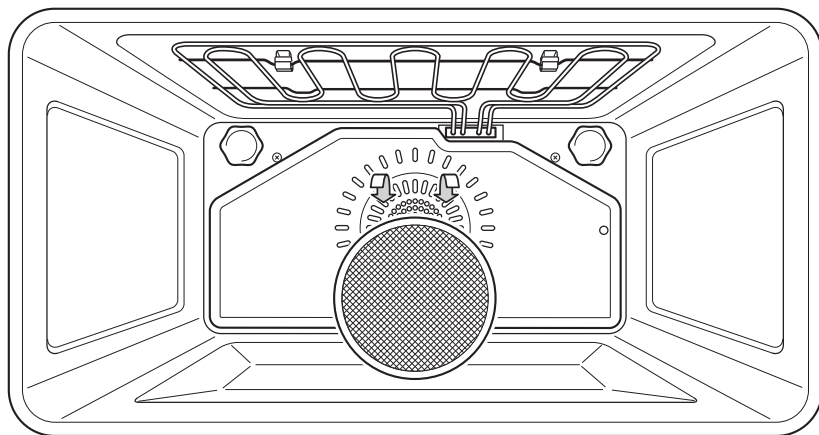

Fig. 9.3
A special screen is provided at the back of the oven to catch grease particles, mainly when meat is being roasted (fig. 9.3).
- Slide in the grease filter on the back of the oven as in fig. 9.3.